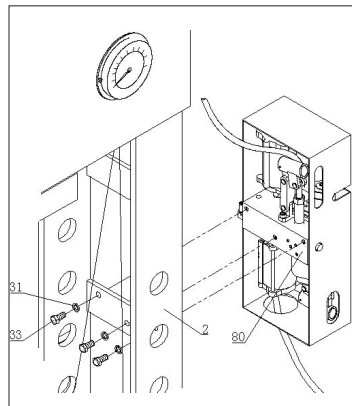

Fig.06
- Positioning of the Manometer: The manometer should be positioned on the hydraulic unit, which is located on the upper part of the press Fig.06.Remove the metal cover, position the manometer, making sure that the O-ring seal which is inside the manometer casing remains at the bottom upon installation.